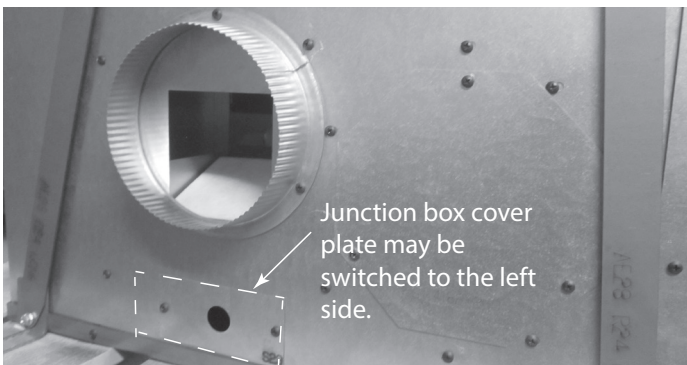
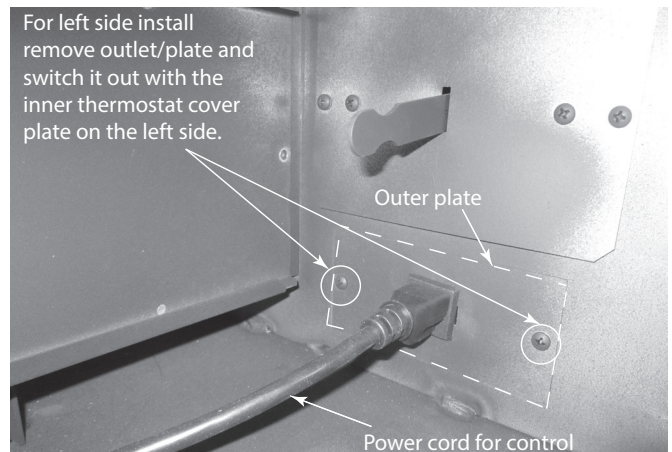

Figure 4.1 Junction Box Cover Plate (Right side shown)
Figure 4.4 Junction Box Shown on Right Side
- Remove junction box cover plate on the bottom right side of the fireplace to access the outlet wires. See Figure 4.1 & 4.2. **NOTE:** The power may enter from either side by switching the cover plates on the outer shell and switching the outlet plate in the bottom access area to the other side. See Figure 4.4.